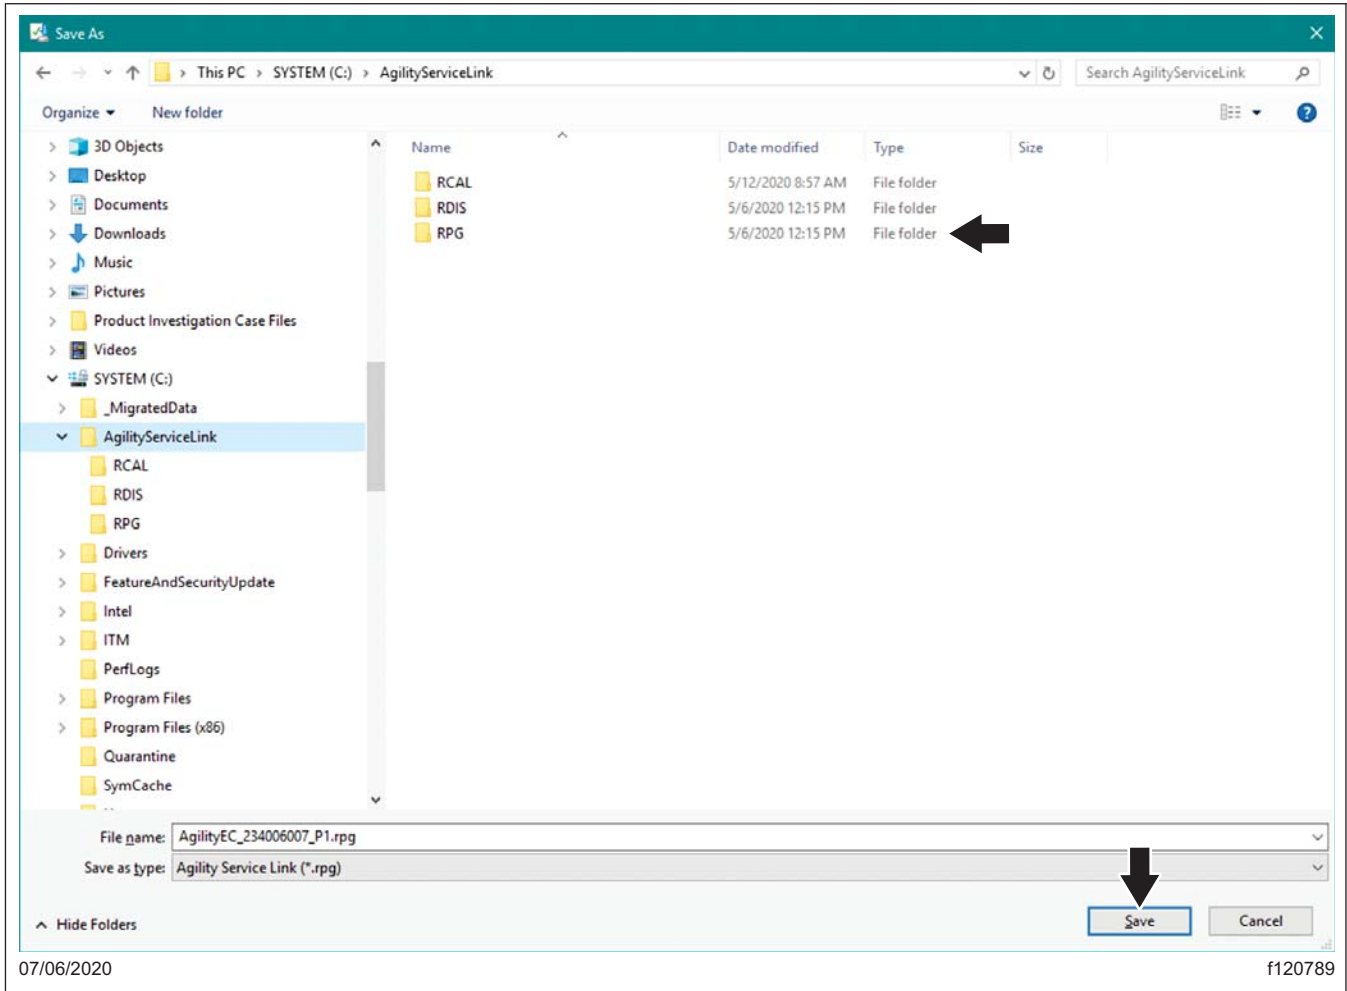

Fig. 19, Saving the Calibration in the RPG Folder
21. Once the folder is open, save the calibration program in the RPG folder. See Fig. 19.